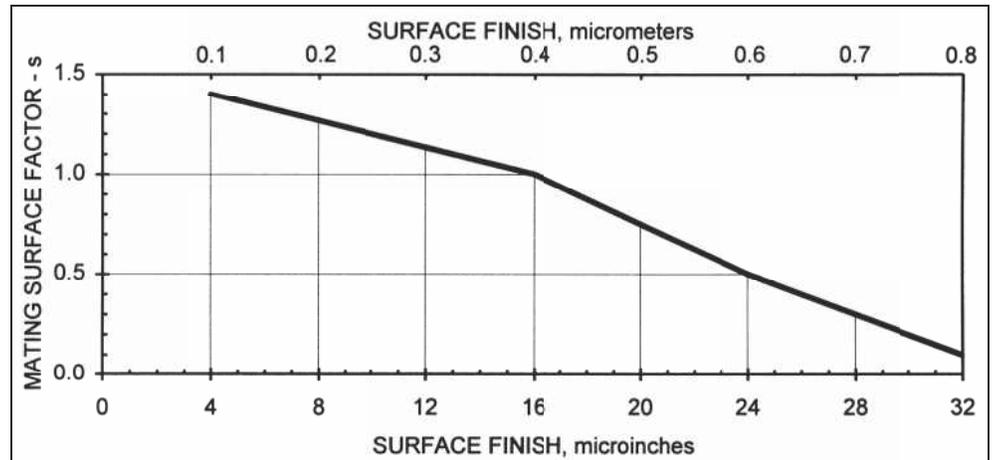

Figure 5-5. DX Mating Surface Factor – s
- $s$  = mating surface factor, Figure 5-5
DX bearings may be used with all conventional shaft materials. A ground finish of better than 16 microinches (0.4 micrometers) is recommended. Hardening of steel shafts is not essential unless abrasive dirt is present, in which case a shaft hardness of at least Rc40 is recommended. Figure 5-5 shows the relationship of application factor, s, for various surface finishes.